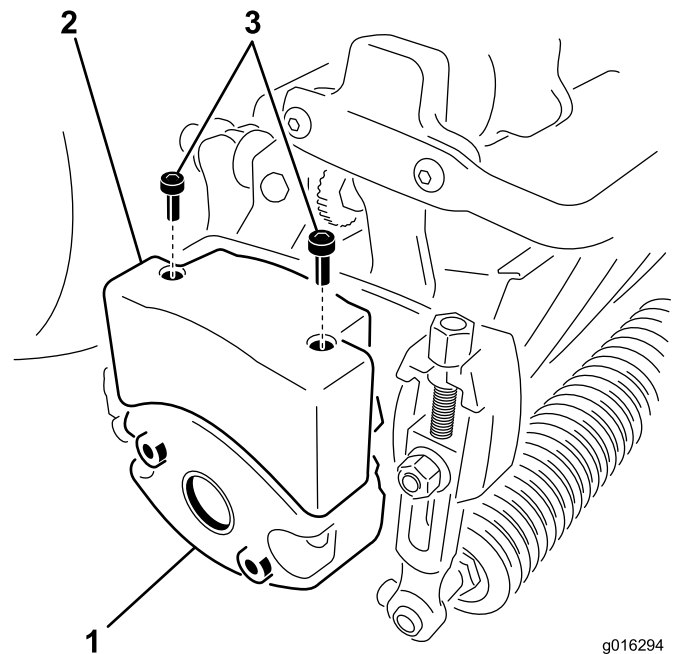

Figure 11
4. Remove the 2 bolts securing the weight to the side of the cutting unit (Figure 11).
6. Install an upper weight to the cutting unit weight using 2 hex socket-head screws (Figure 11).